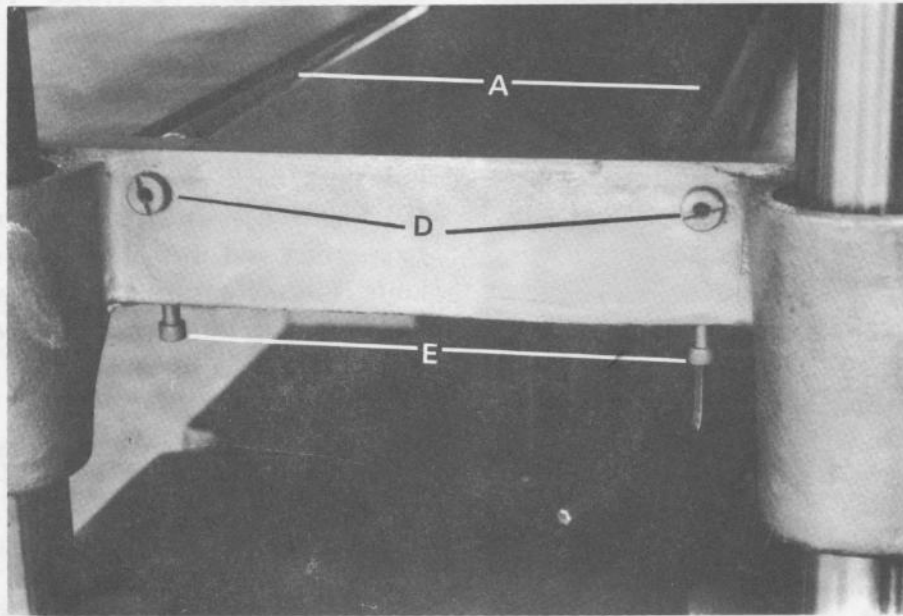

Fig. 7
Your planer is supplied with two table rolls (A) Fig. 7 which aid in feeding the stock by reducing friction and turn as the stock is fed through the planer. It is not possible to give exact dimensions on the proper height setting of the table rolls because each type of wood behaves differently. As a general rule, however, when planing rough stock the table rolls should be set HIGH and when planing smooth stock the table rolls should be set LOW.